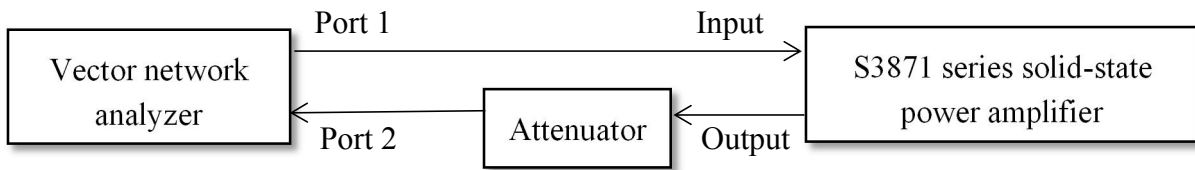

Figure 5-1 Gain and standing wave testing diagram
- ① Turn on the power of the amplifier and 3672 for preheating for 30 minutes.
- ② Set 3672 to [Test], [S21], [Format], [Log Amplitude], power of -40dBm, frequency of 32GHz to 40GHz, frequency sweep time of 1s, and number of measurement points of 101.
- ③ Connect the test cable of port 2 of 3672 with the attenuator, and then carry out dual-port calibration of 3672 after connection with the attenuator. The attenuator adopts a high-power fixed attenuator with the attenuation value greater than 30dB, and the continuous wave carrying power must be greater than 10W. The recommended model is 89-30-21 manufactured by Weinschel Company.
- ④ Turn the gain regulator on the front panel of the S3871FB solid-state power amplifier clockwise to the end, conduct the gain test according to the connection system shown in Figure 5-1, and record the value S21 as the gain value of the amplifier.
**(2) Input port voltage standing wave test**
- ② Set 3672 to [Test], [S11], [Format], [SWR], power of -40dBm, frequency of 32 GHz to 40 GHz, frequency sweep time of 1s, and number of measurement points of 101.
- ③ Carry out dual-port calibration of 3672.
- ④ Turn the gain regulator on the front panel of the S3871FB solid-state power amplifier clockwise to the end, conduct the SWR test according to the connection system shown in Figure 5-1, and record the value S21 as the SWR value of the amplifier.
**(3) Max. Output Power, Max. Input Power and Output Power Flatness Tests**